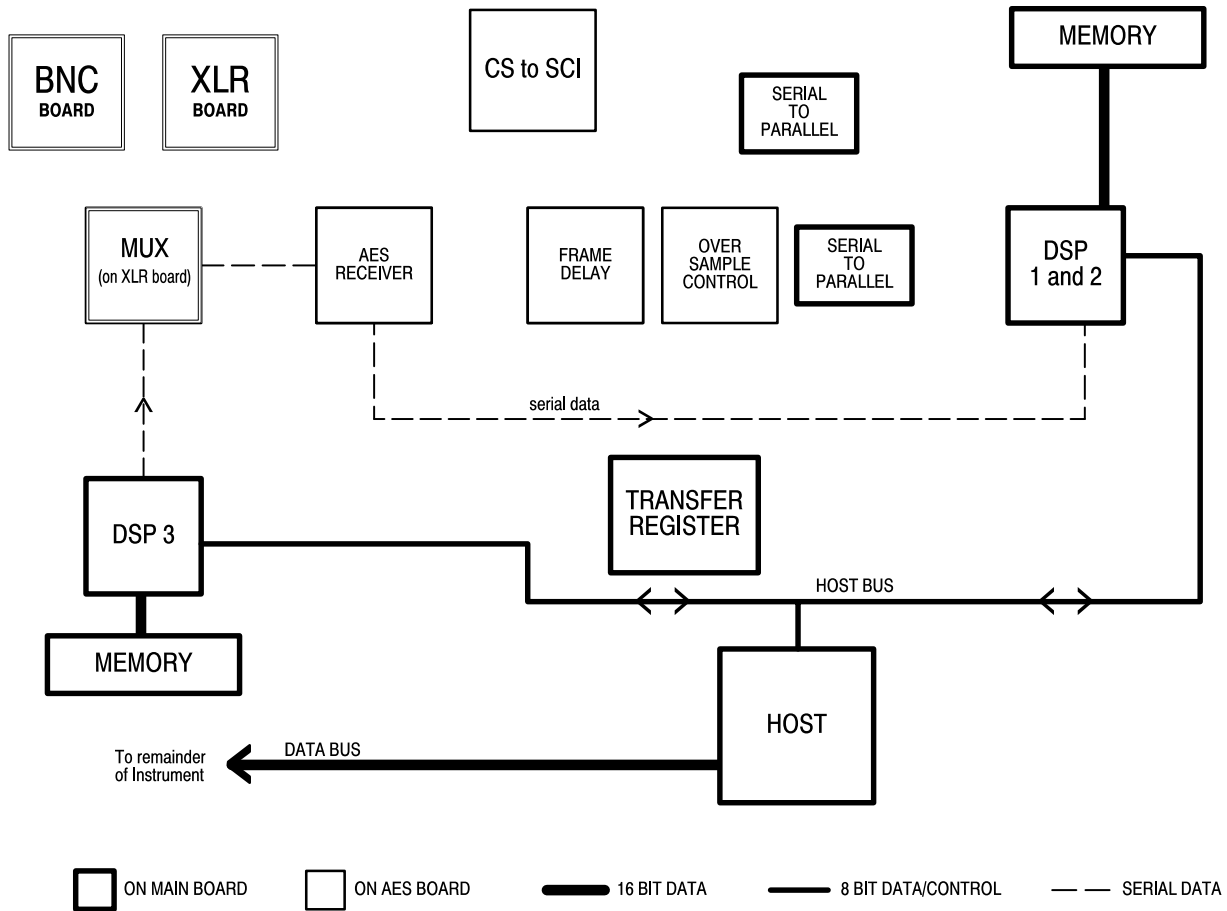

Figure 5-4: The receiver loop-through test
- Receiver tests, DSP1 Rx Loop and DSP2 Rx Loop, Figure 5-4.